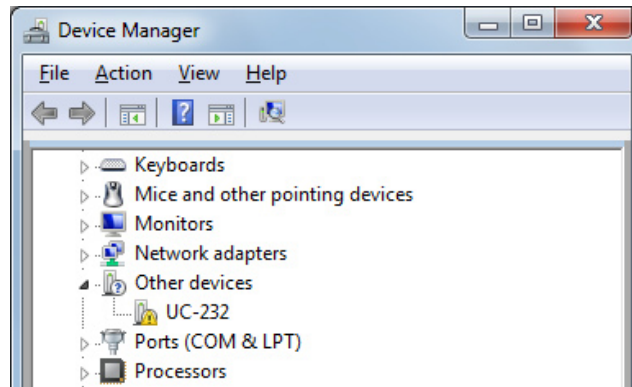

Fig. 10. Device manager - Device with a Yellow Warning Symbol.
- 2) In the Device Manager window there will be a device under Other Devices with a yellow warning symbol (see Figure 10) to indicate a problem (no driver installed).